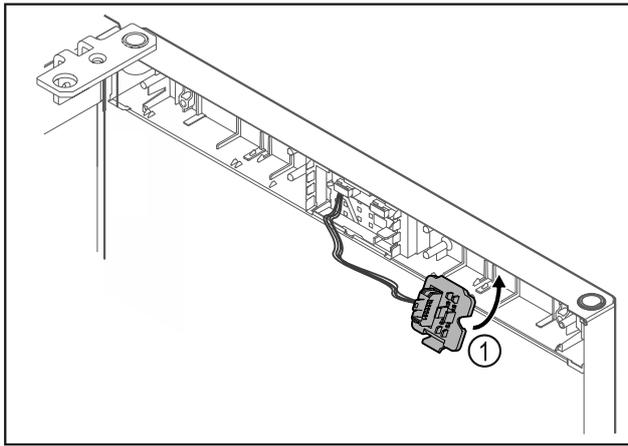

Fig. 21
- ▶ Snap in the plug holder Fig. 21 (1) on the opposite side.